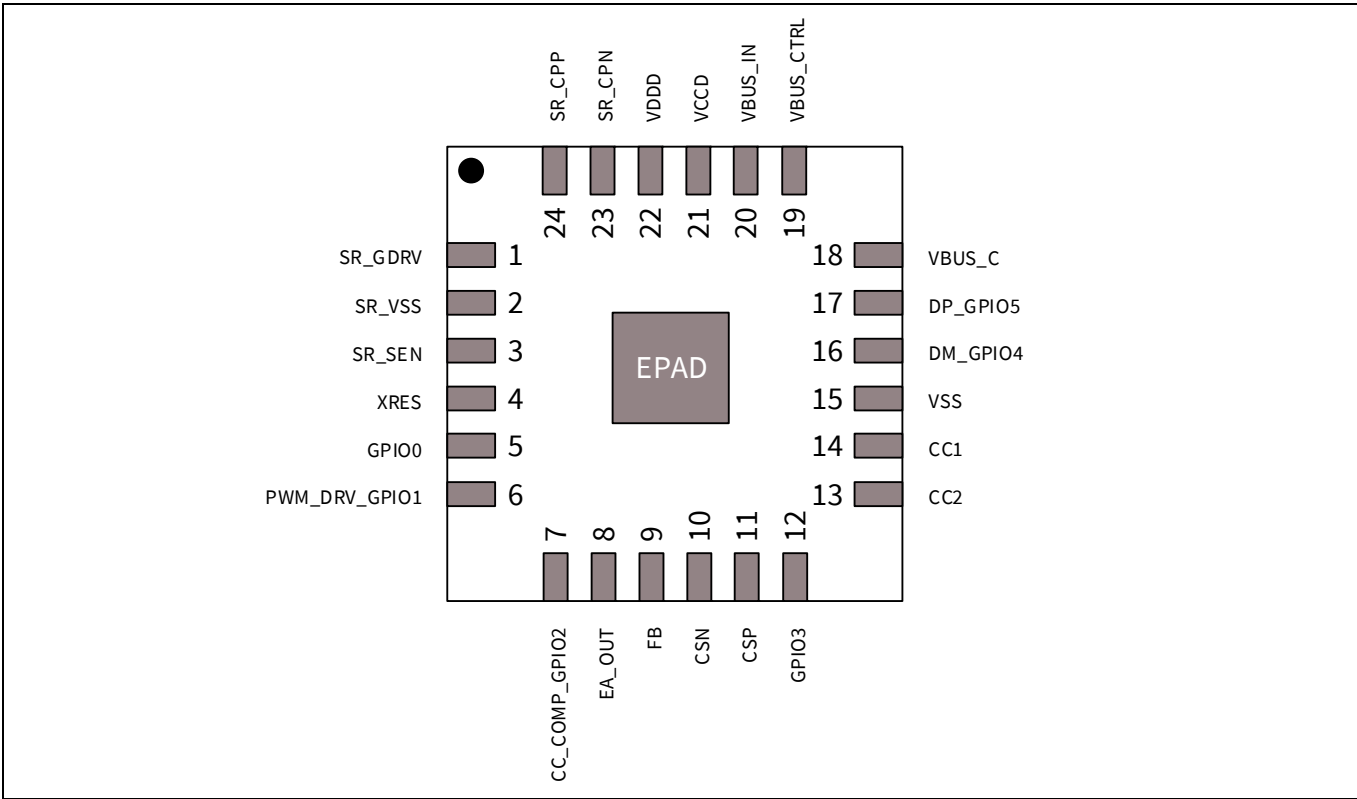
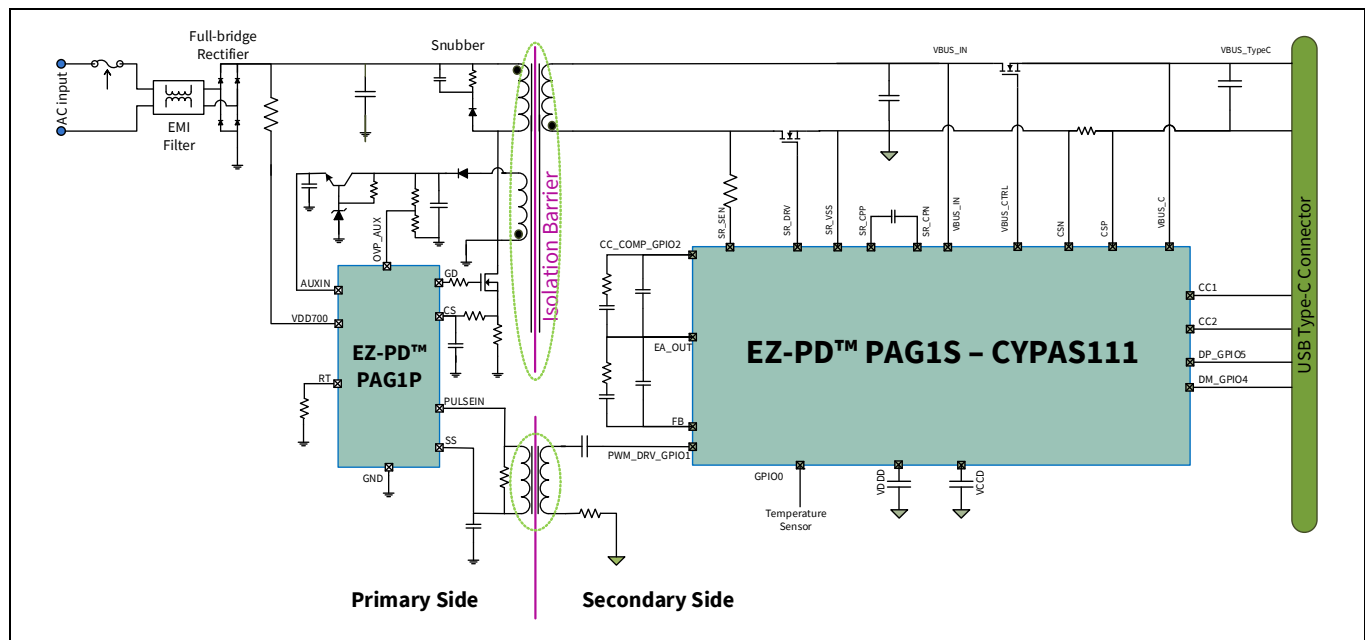

Figure 1 24-pin QFN pin map
Figure 6 Power adapter with secondary side control application diagram
EZ-PD™ PAG1S integrates two error amplifier blocks which handles secondary output sensing and regulation for constant voltage (CV) and constant current (CC) modes. This block is responsible for both constant voltage and constant current operations. The error-amplifier output feeds in to the internal analog PWM block. The negative input of the error amplifier is the feedback (FB) pin and the positive input is internal reference of 0.744 V. The FB pin has internal resistor divider of 200 kΩ and 35 kΩ, this divider sets a default voltage of 0.744 V at FB pin when VBUS_IN is at 5 V. Based on the desired VBUS_C output, the voltage at the FB pin will be varied using internal current source/sink IDACs. An external compensation network is required between FB pin and EA_OUT pin, as shown in Figure 6.
Constant current operation makes use of an internal low-side current sense amplifier (LSCSA), the output of which feeds into an independent error amplifier as shown in Figure 1. The reference to Constant current error-amplifier is programmable between 0.4 V to 2.1 V. Constant current mode regulation requires an external compensation network between CC_COMP_GPIO2 and EA_OUT as shown in Figure 6. EZ-PD™ PAG1S error amplifier can ensure constant voltage regulation from 3.3 V to 21.5 V range and constant current regulation from 1 A to 3 A as required by the USB PD PPS specification.
Figure 6 shows a power adapter application diagram implementing a secondary side controlled synchronous flyback system. In this system, EZ-PD™ PAG1S modulates the pulse width of the primary MOSFET in voltage mode control. EZ-PD™ PAG1S engages the error amplifier and a programmable ramp generator to determine the pulse width of the PWM. This PWM signal is transferred from the secondary to the primary side through a pulse transformer. The primary controller can be any standard primary start-up controller and in **Figure 6**, EZ-PD™ PAG1P is used as the primary controller with EZ-PD™ PAG1S. In this topology, EZ-PD™ PAG1S integrates three key features: secondary side control, synchronous rectification, and charging port controller.